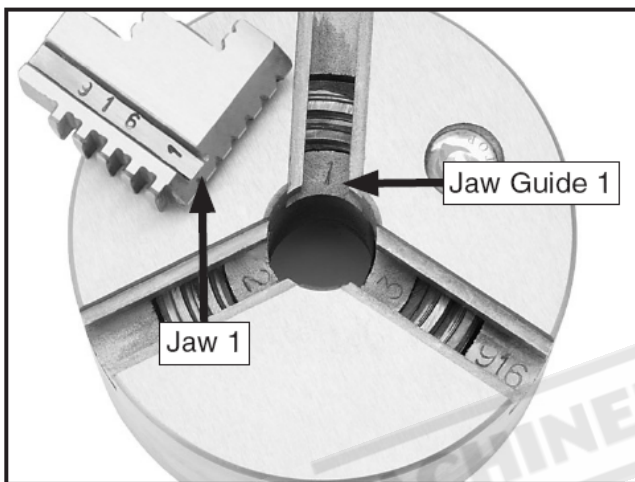

Figure 16
2. Examine the side of the jaws—each is stamped with a number 1 through 3. Examine the jaw guides of the chuck—each is stamped with a corresponding number (see **Figure 16**).